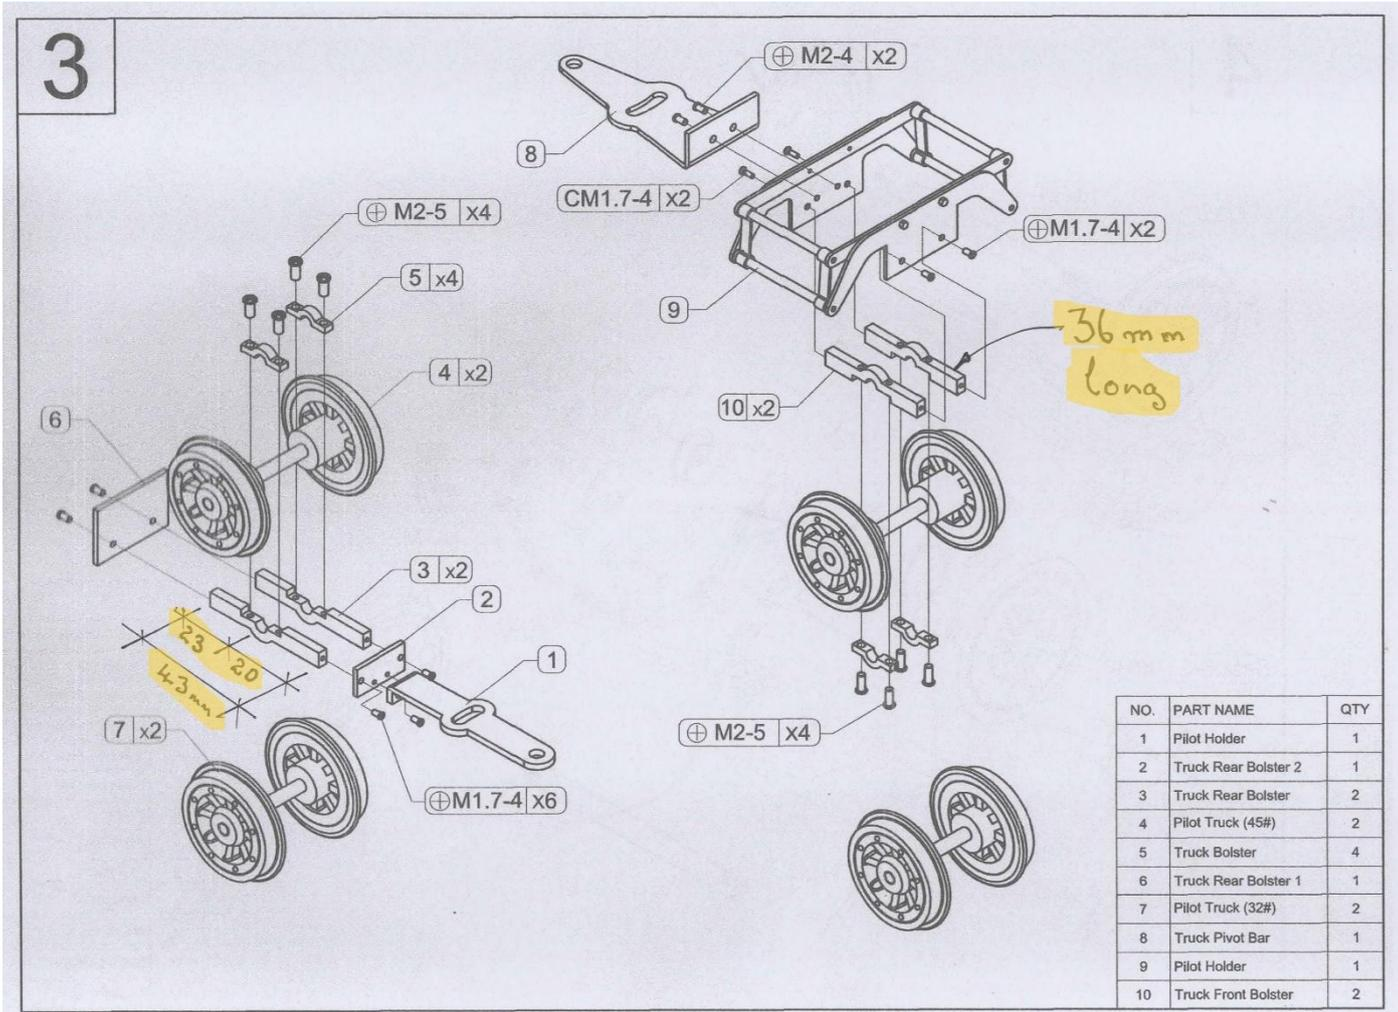

Fig 2: Installation of **Pilot Truck Bolsters**
- **Truck Front Bolster #10** is 36mm long, **Truck Rear Bolster #3** is 43mm long and is not symmetrical. **See Fig 2** for correct installation.